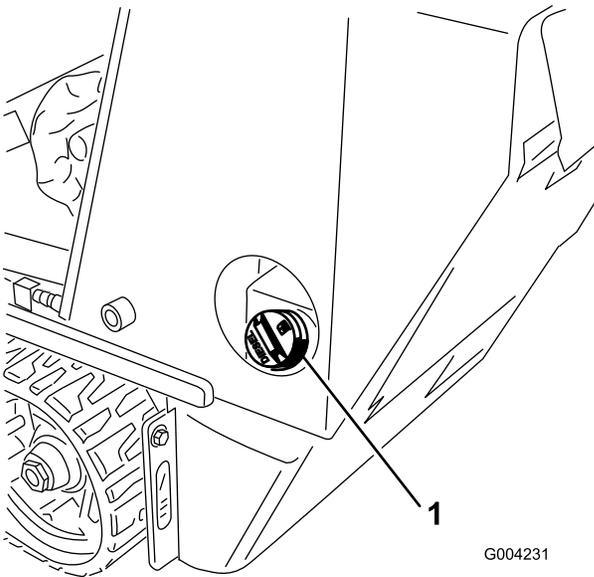

Figure 10
1. Remove the fuel tank cap (Figure 10).